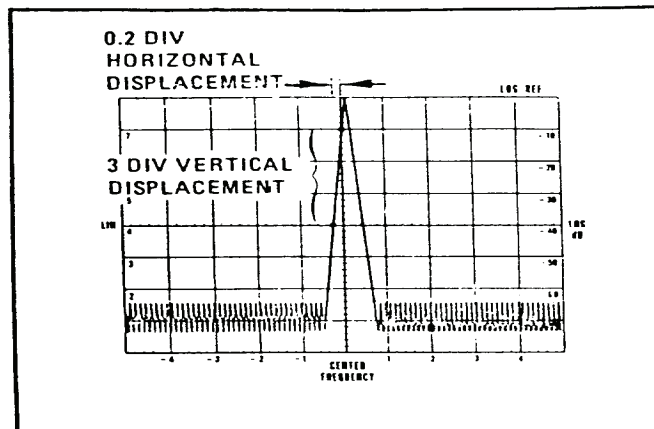

Figure 14. Local oscillator stability.
- (2) Position TI controls as listed in (a) through (e) below:
- (3) Set IF plug-in **SCAN TIME PER DIVISION** switch to 2 ms and **LOG/LINEAR** switch to **LINEAR**.
- (4) Adjust signal generator output for 100 MHz CW at -30 dBm.
- (5) Adjust **LINEAR SENSITIVITY** control and **LINEAR SENSITIVITY (LOG REF LEVEL vernier)** vernier control as necessary to obtain a full 8-division display.
- (6) Adjust **FREQUENCY** and **FREQUENCY FINE TUNE** controls as necessary to center display.
- (7) Readjust **FREQUENCY** controls until upward slope of signal pip intersects **CENTER** graticule line one division from top graticule line as shown in figure 14. Note where slope of display intersects center horizontal graticule line and record horizontal displacement (fig. 14).
(10) Set **SCAN WIDTH** (red) switch to **ZERO** and adjust **FREQUENCY FINE TUNE** control to position signal display line so that it appears in the three-division range mentioned in (7), (8), and (9) above (fig. 14).
(11) Measure p-p vertical displacement and multiply by demodulation sensitivity obtained in (9) above. Calculated value will be 10 kHz p-p or less.